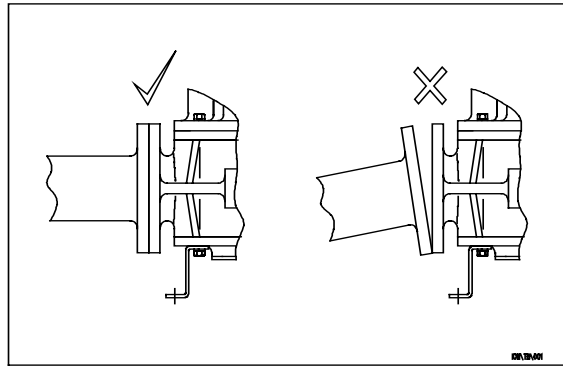

Fig 2
- 1.1 Check the valve externally for damage and internally for foreign objects. Install the valve using compressible gaskets on all flanges. The valve body must not be stressed or used to support any ancillary equipment. (Fig 2)